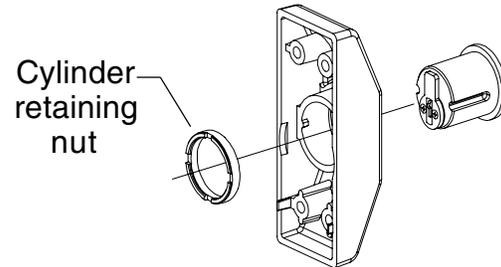

Figure 11-2
11.3. Install cylinder into cylinder housing (Figure 11-2). **Tighten cylinder retaining nut securely.** Make sure end of cylinder housing marked "TOP" is up.